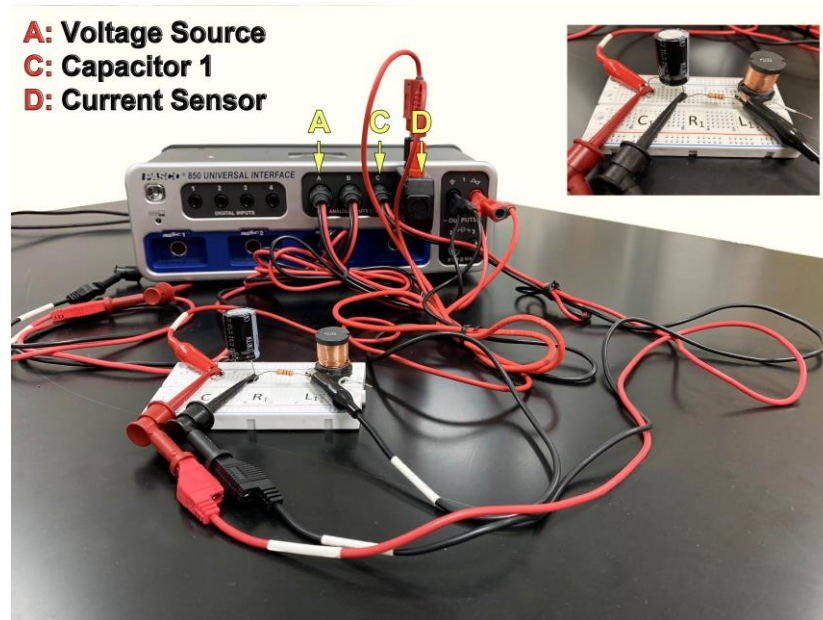

Figure 5
1. Connect the RC Circuit together using  $R_1$ ,  $C_1$  and the interface as in **Figure 5**. The AC source is from Output 1 of the interface. The current sensor, attached to Input D on the interface, is wired in series from the positive side of the source to the capacitor  $C_1$ . The voltage sensor, attached to Input C on the interface, is connected across the capacitor  $C_1$ .